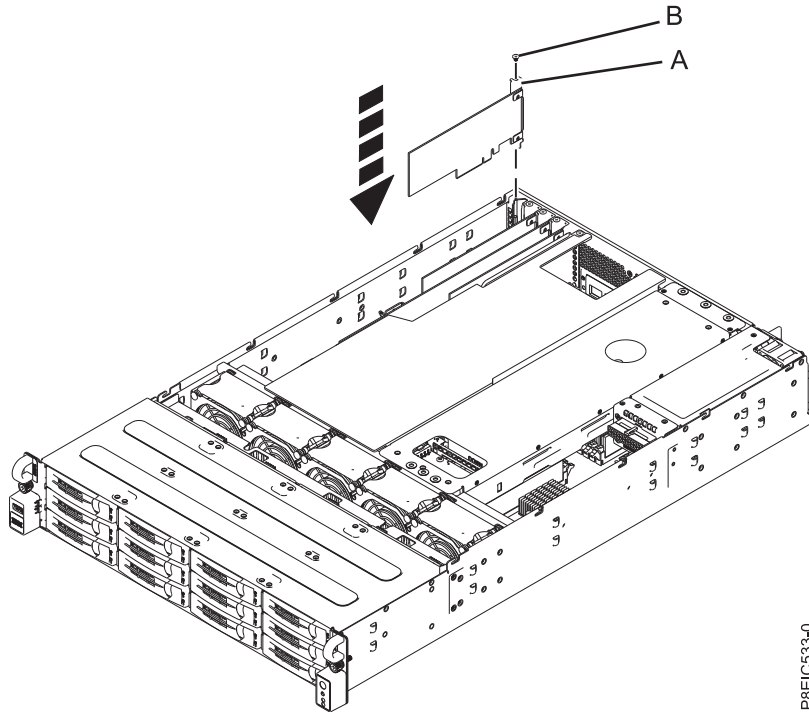

Figure 38. Replacing the supercapacitor module card (A) and screw (B)
- b. Insert the retaining screw (**B**) and tighten it to secure the supercapacitor module card in the system, as shown in Figure 38 on page 59.